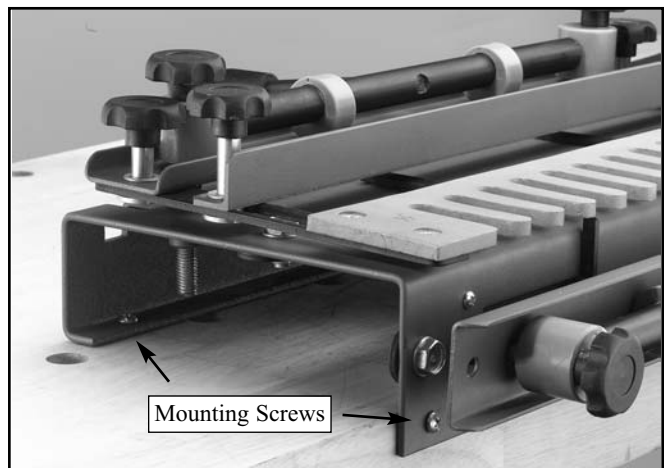

Figure 2 Jig secured to a benchtop.
3. Secure the jig to your bench top. See **Figure 2**.